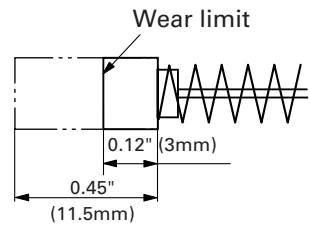

Fig. 17
4. Inspecting the carbon brushes (Fig. 17)